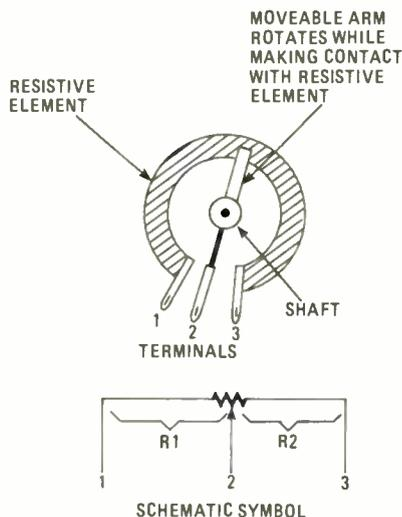

Fig. 18—The conventional potentiometer also uses a metal cover to provide shielding against stray magnetic fields.
36. (potentiometer) Inside the pot is a resistive material coated onto a base in a circular form. A wiper arm touches the resistive element and is made to rotate from one end of the element to the other as Fig. 18 shows. A knob attached to the arm shaft makes adjustment easy. In this way, the arm taps off a part of the resistance. The schematic symbol for a pot is also given in Fig. 18.
Refer to Fig. 18. If the arm of a 10,000 ohm pot is set one quarter of the distance from the left end of the element, the resistance between terminals 1 and 2 is _____ ohms and the resistance between terminals 2 and 3 is _____ ohms.